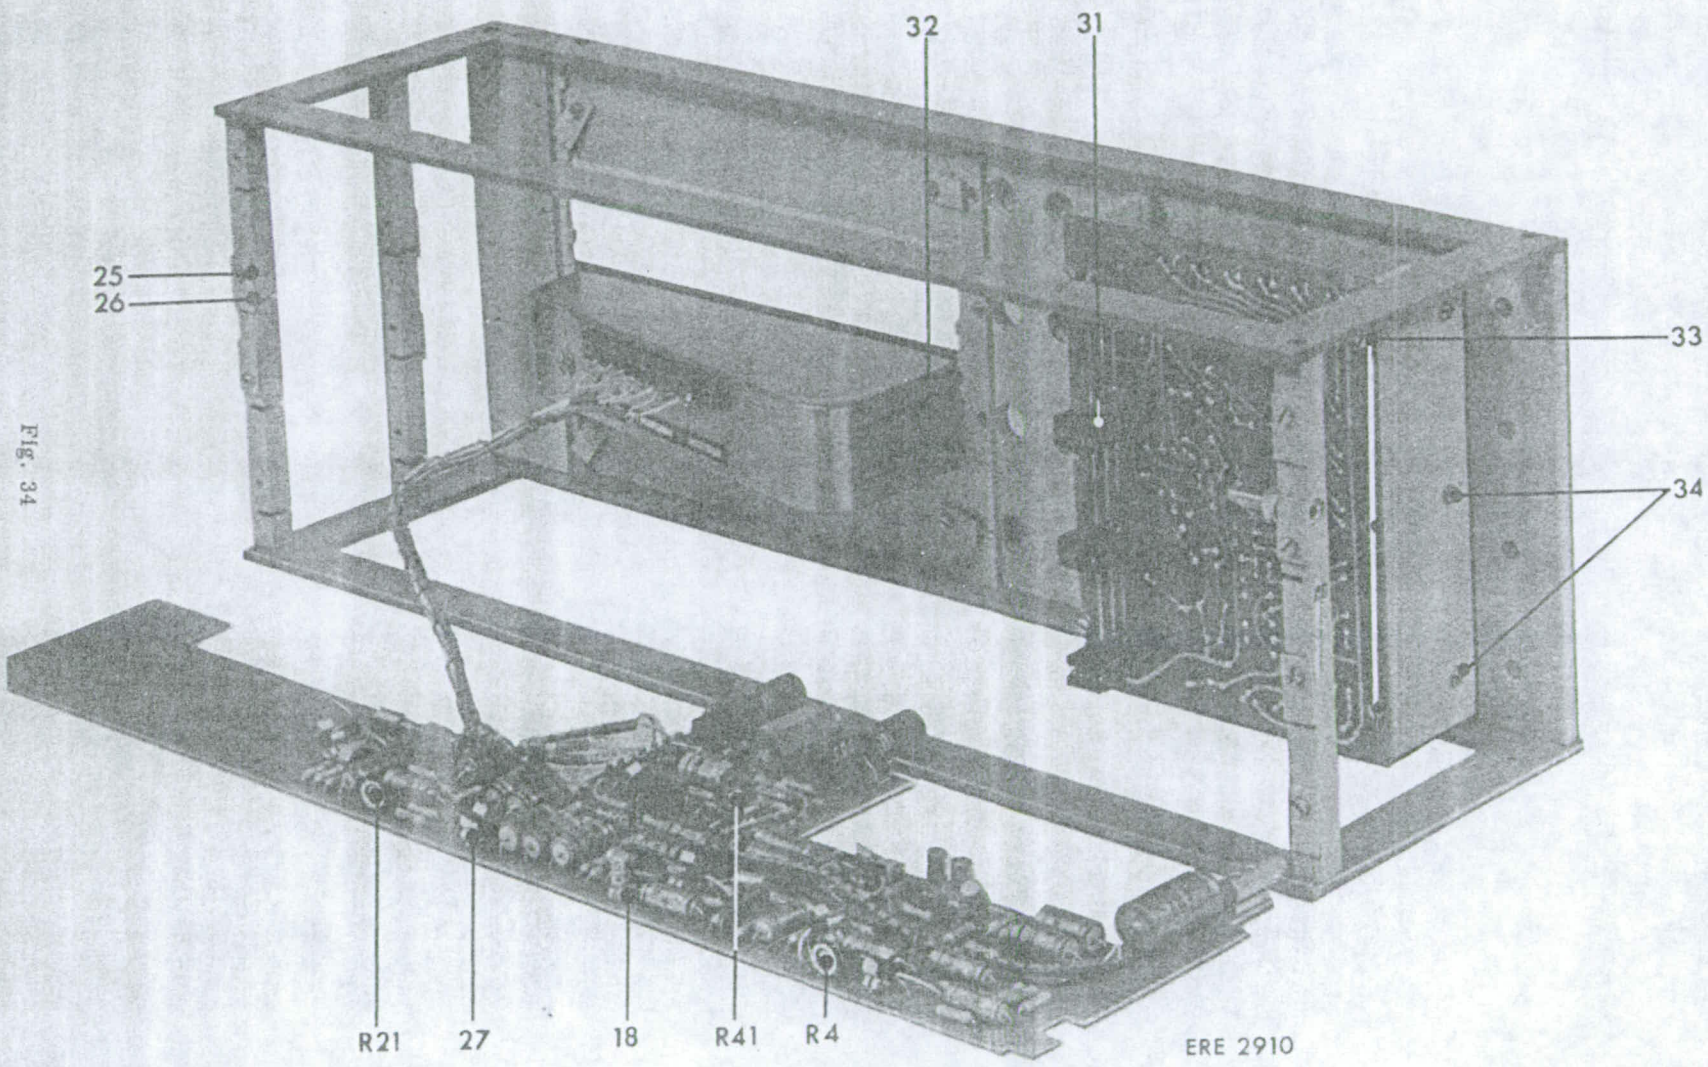

FIG. 34
- . The output voltage across H and point E of the fader should be 139 mV (-15 dB). Adjust with R21 (see Fig. 34).
- . The voltage across V and H should be 1.55 V (+6 dB). Adjust with R41 (see Fig. 34).